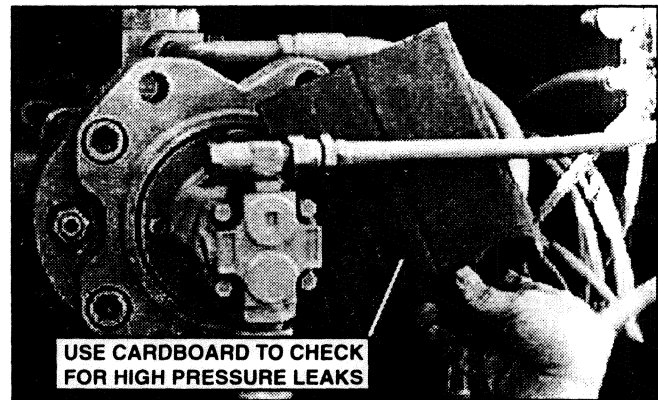

FIGURE 4.36
1. Check complete hydraulic system for leaks. Use a small piece of cardboard when checking areas with high pressure. See Figure 4.36.